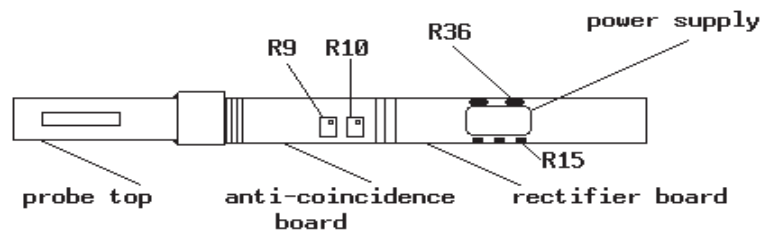

Figure 4 Location of Discrete Components
2. Locate R15 and R36 on the rectifier board then connect P29-2, P29-3 and P29-6 together. See Figure 4 for component placement.